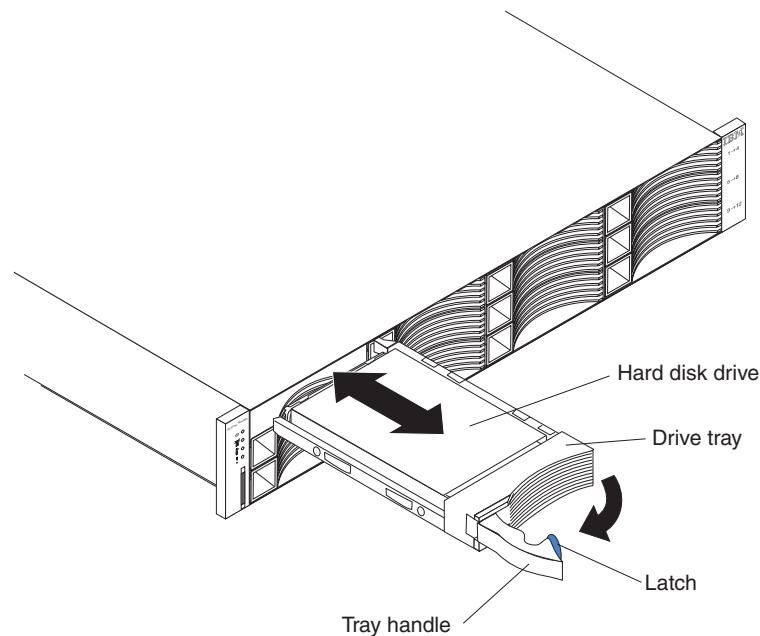

Figure 40. Removing a drive
4. Pull the drive out of the bay, as shown in Figure 40.